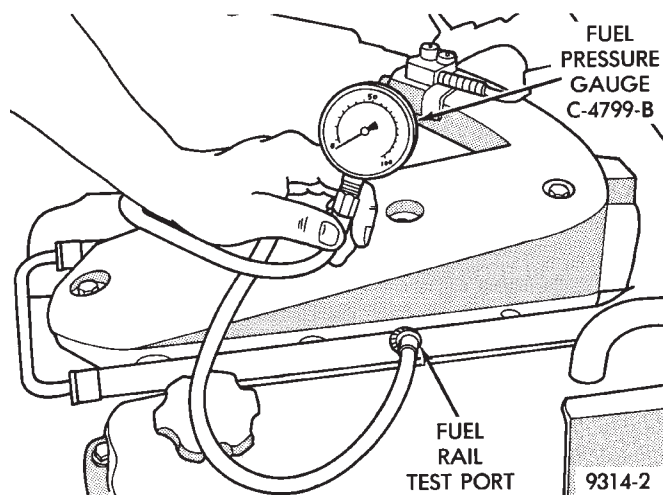
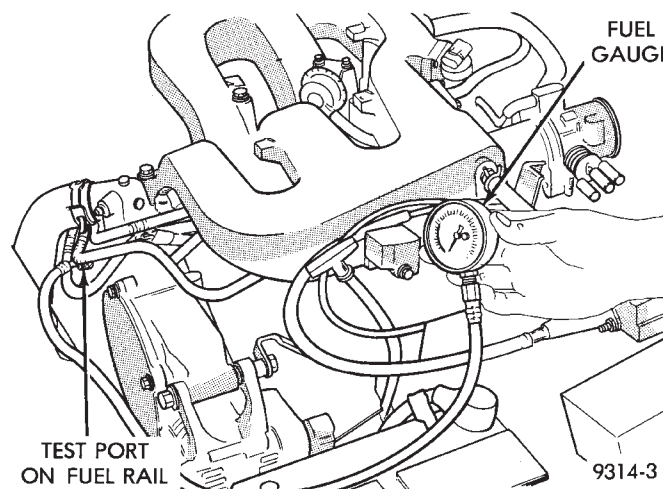

Fig. 28 Checking Fuel Pressure at Fuel Rail—3.3L Engine
Fig. 29 Checking Fuel Pressure at Fuel Rail—3.5L Engine
- (1) Release fuel system pressure before disconnecting a fuel hose. Perform fuel system pressure release.
- (2) Remove protective cover from service valve on the fuel rail.
- (3) Connect Fuel Pressure Gauge C-4799B to fuel rail service valve. (Fig. 28 or Fig. 29).